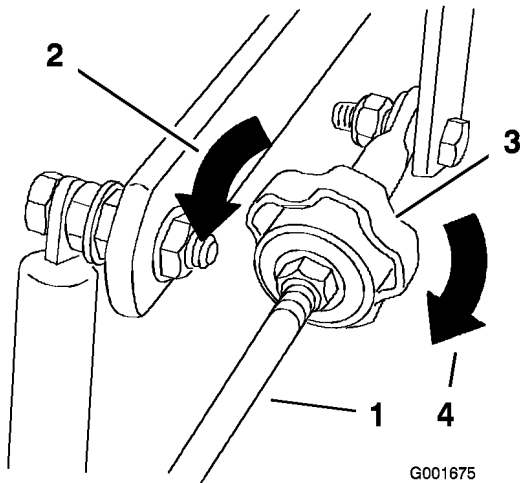

Figure 43
4. To make the machine go right, turn the knob towards the right-side of the machine. Refer to Figure 43.
5. To make the machine go left, turn the knob towards the left-side of the machine. Refer to Figure 43.